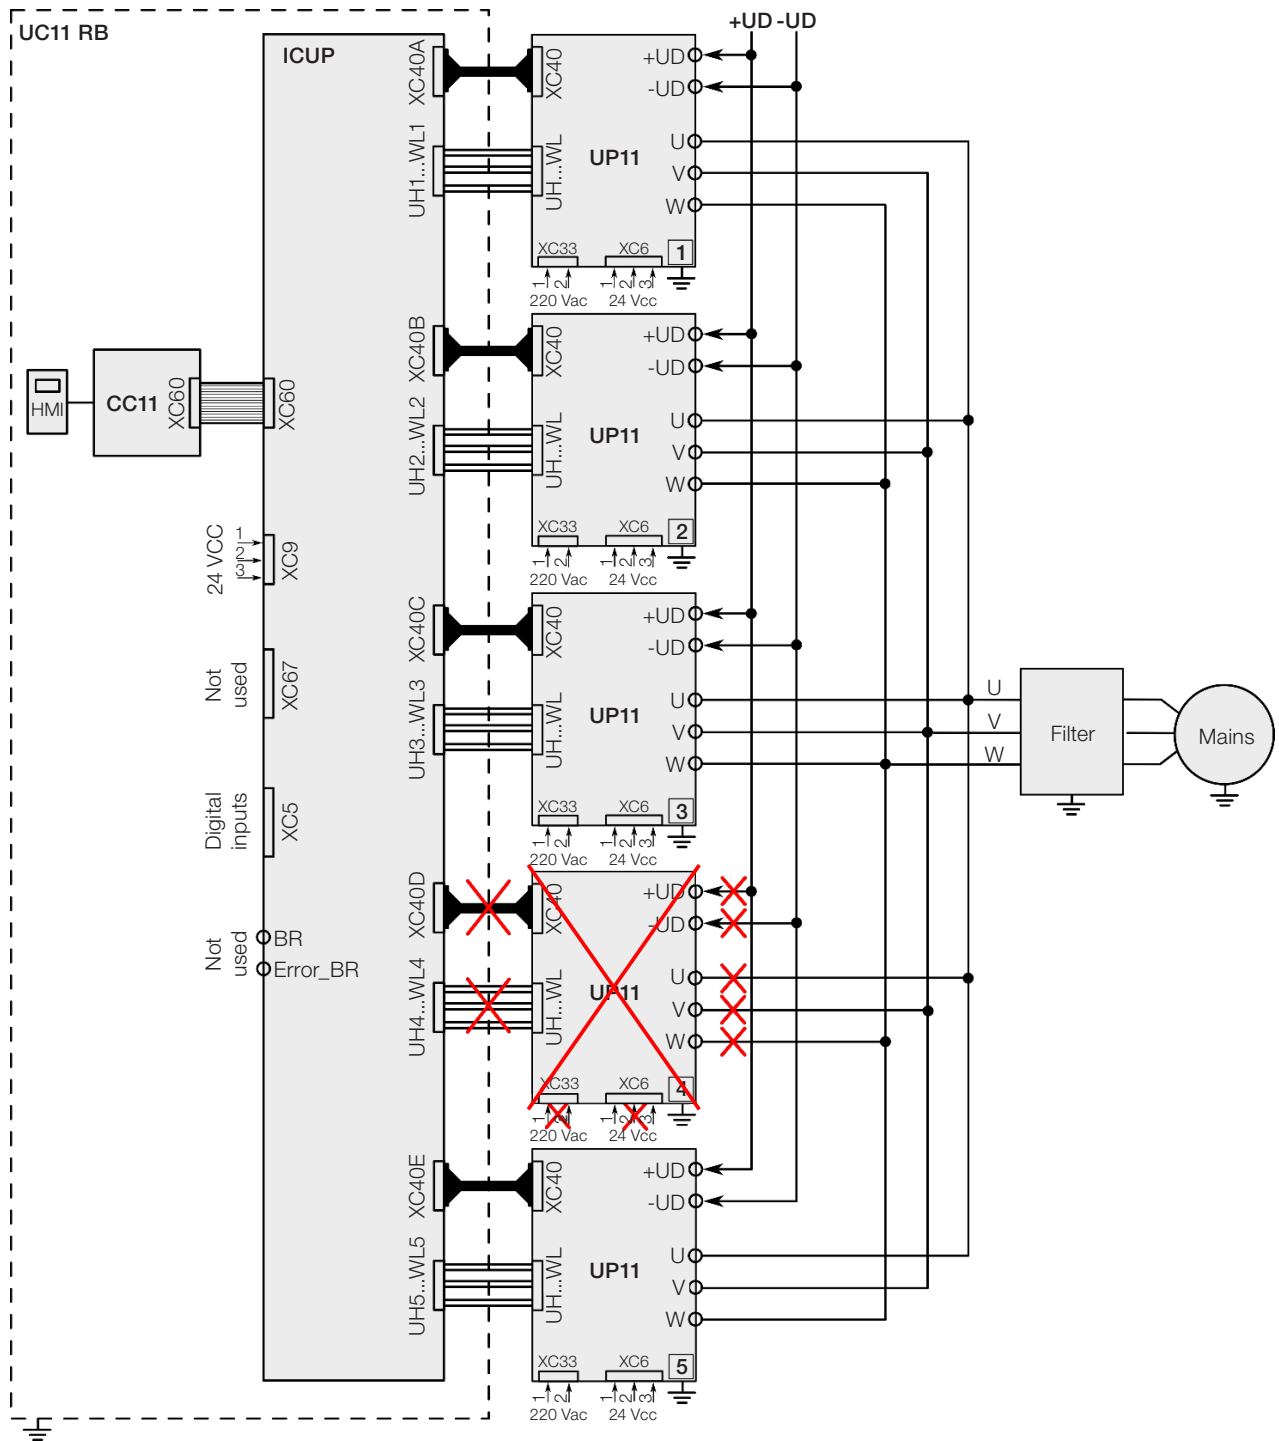

Figure 5.5: Disconnection of the power and control cables of UP11 number 4
3. Disconnect the power and control of UP11 number4, according to Figure 5.5 on page 5-7.